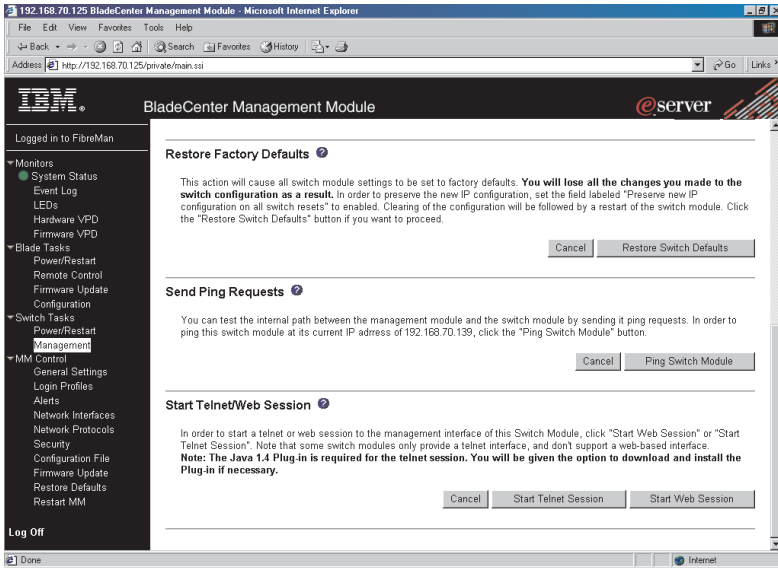

Figure 27. Switch Management window - advanced
7. Scroll down and click **Advanced Switch Management**. A window similar to the one in Figure 27 opens.